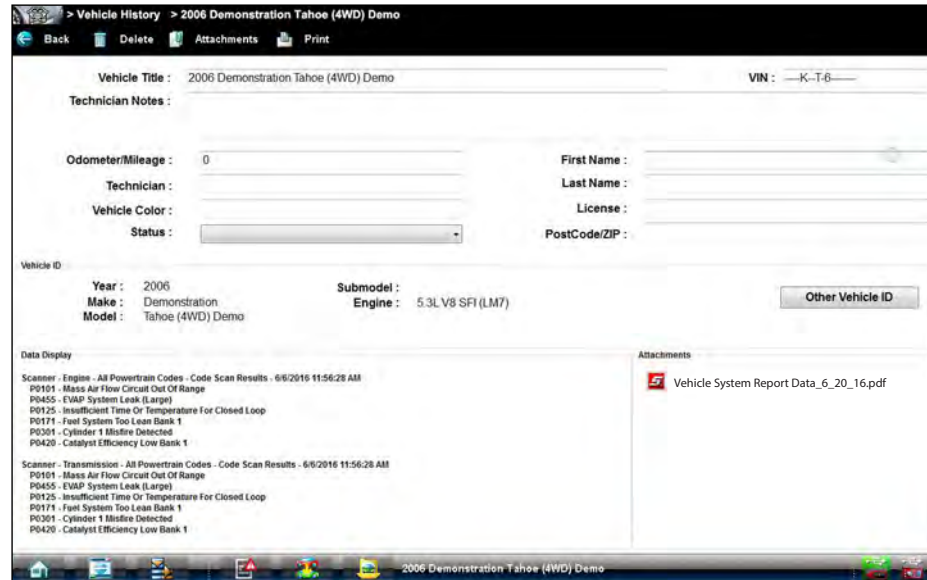

Figure 4-23
3. Select and open the Vehicle System Report PDF file from the attachments box (Figure 4-23).